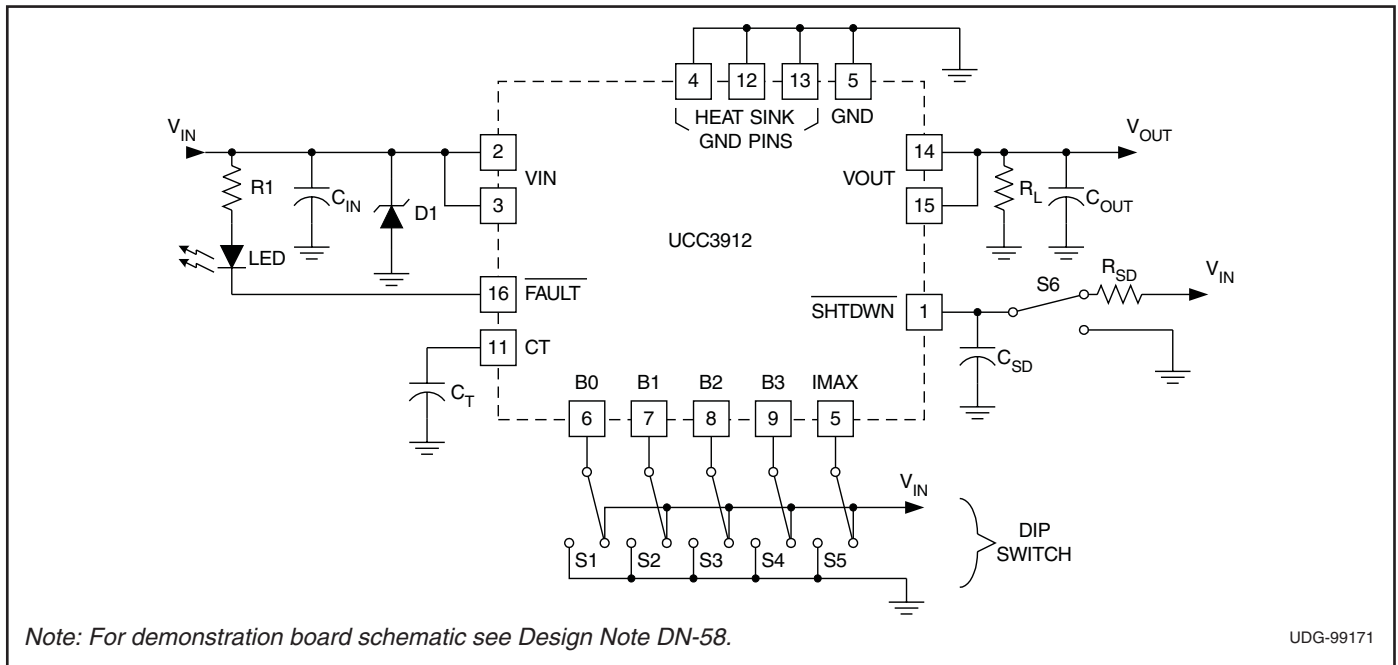

Figure 1. Evaluation circuit.
- Decoupling V_{IN} with a capacitor, C_{IN} (refer to Fig. 1), located close to pins 2 and 3. This capacitor is typically less than $1\mu F$ to limit the inrush current.
- Clamping the voltage at V_{IN} below 8V with a Zener diode, D1 (refer to Fig. 1), located close to pins 2 and 3.